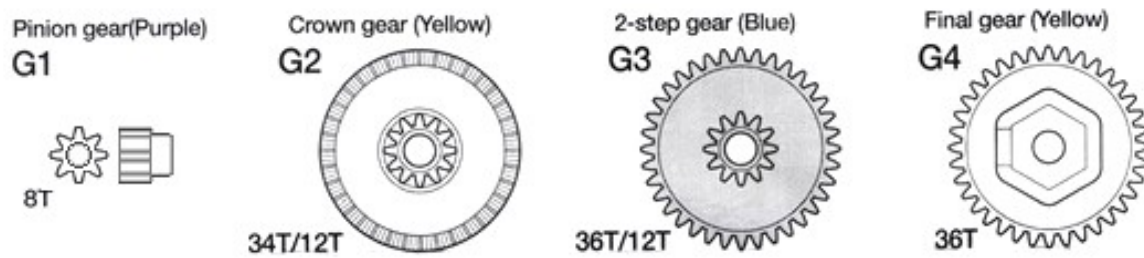

Figure 1.6
7. Use figure 1.6 to help you recognize the different types of gears included.